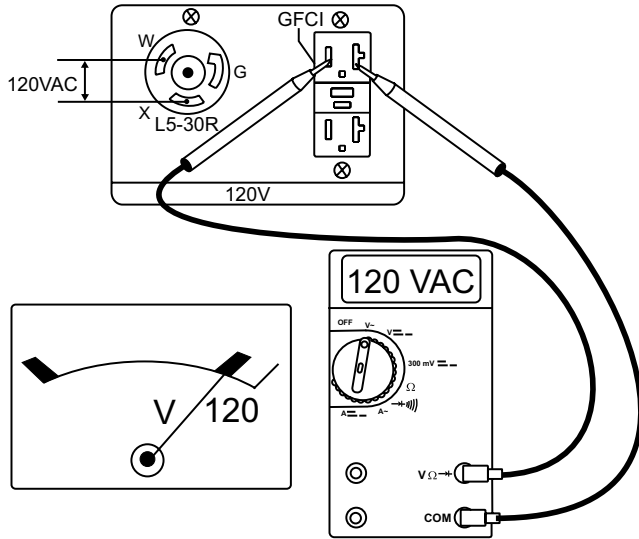

**Figure 22. Full Power Switch 120V Position (Up)**
11. Place the full power switch (Figure 22) in the 120V position (up).